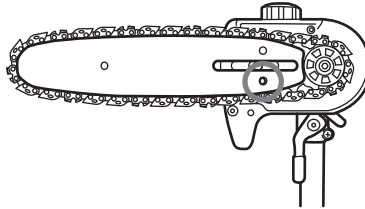

Fig. 23
9). Make sure the tension pin (11) is inserted into the lower hole on the guide bar. (See Fig. 23)